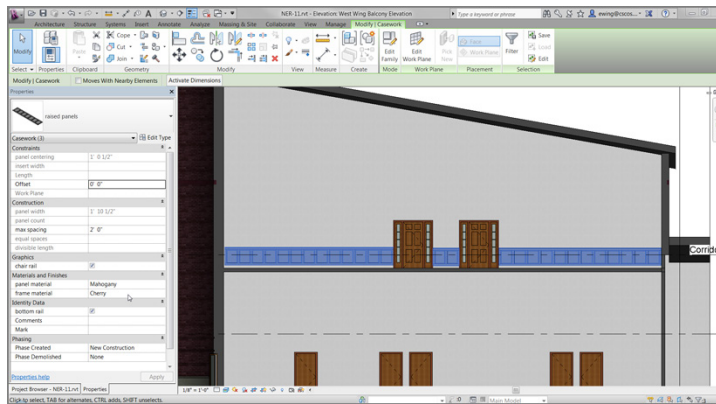

FIGURE 10.80: Changing the material
21. Change Panel Material to Mahogany. See Figure 10.80.